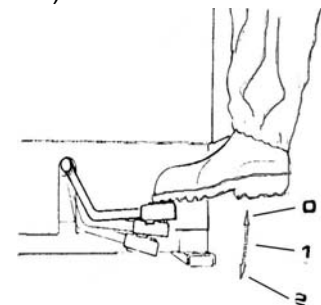

Fig.IT2
- Press the inflating pedal, which is stretched out from the bottom of the left cover of the box assembly, down to the middle position (Fig.IT2, position 1). The inflating head should give air.
- Press the inflating pedal all the way down (Fig.IT2, position 2). A strong air blast should come from the holes in the four locking slides.